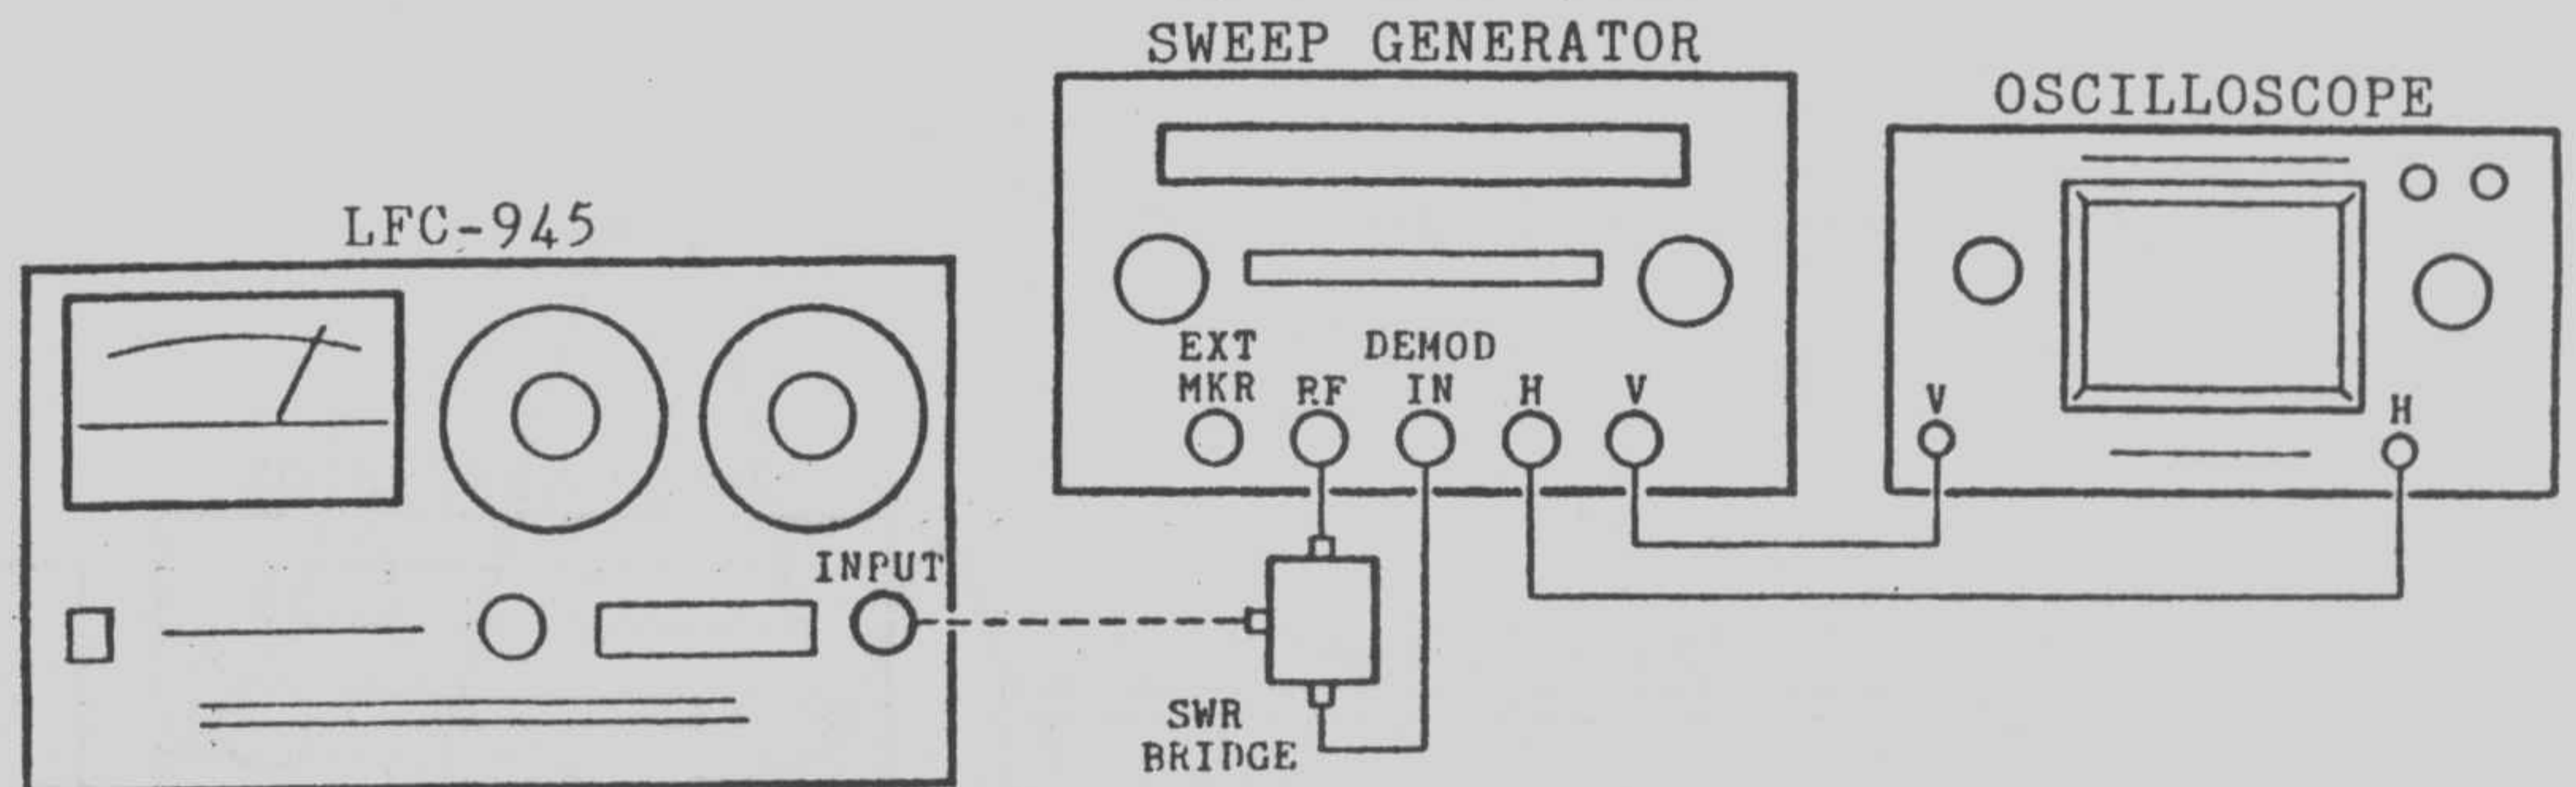

Figure-2
- b) Connect the test equipment as shown in Figure-2, but do not connect the SWR bridge to LFC-945.